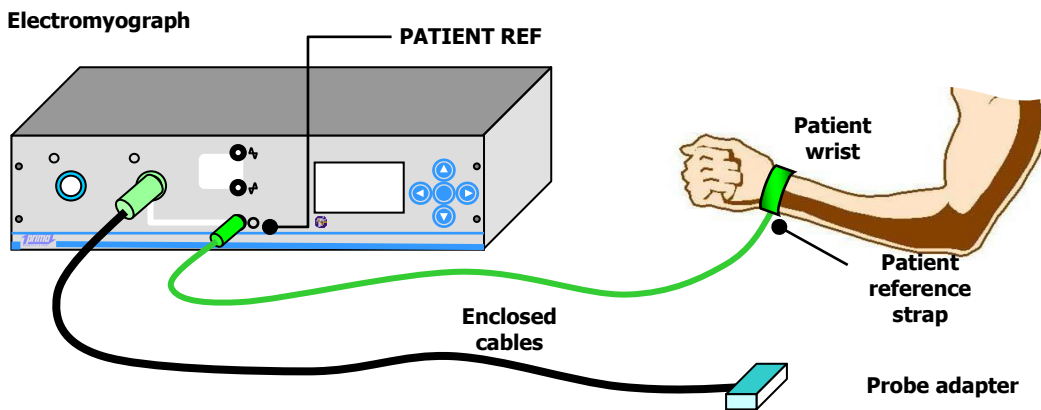

FIG. 11: Patient connection diagram for single differential mode signal acquisitions (Mode: Differential).
- Connect a patient ground strap to **PATIENT REF** plug with the enclosed cable. The strap has to be wet with water to assure a good electric contact with the patient and has to be applied on a point without any electromyographic activity (e.g. the ankle or the wrist, FIG. 11).